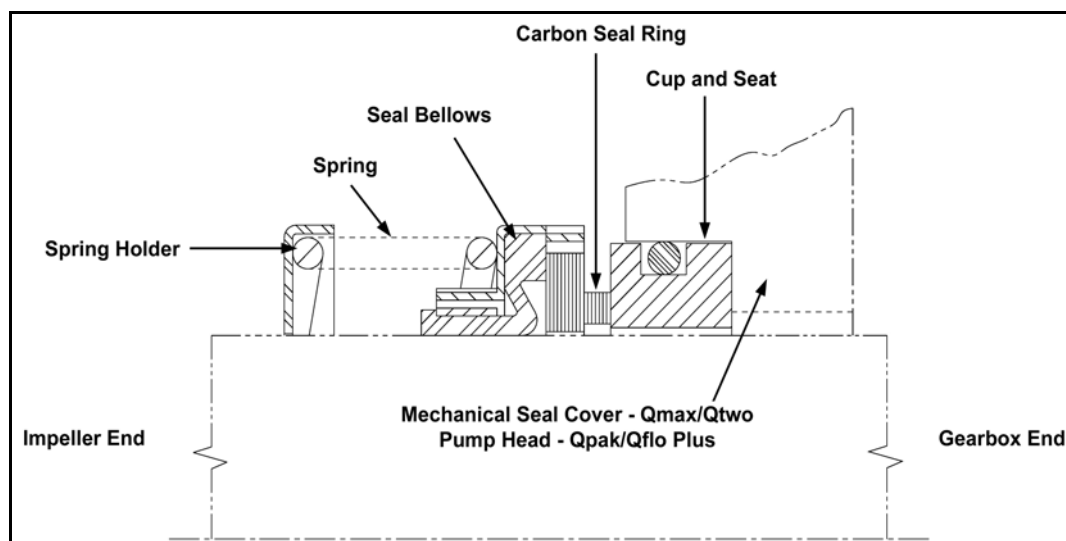

Figure 8-8: Mechanical Seal Overview / Replacement
9. Use hooks that fit around the shaft and seal, then remove the mechanical seal assembly. (See Figure 8-8: “Mechanical Seal Overview / Replacement” on page 144.)